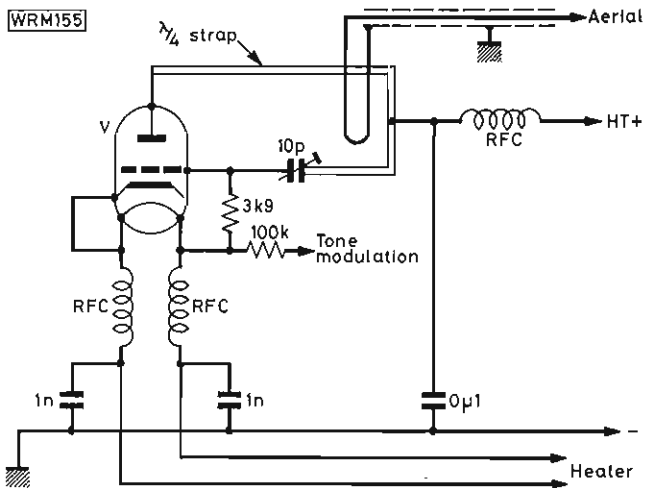
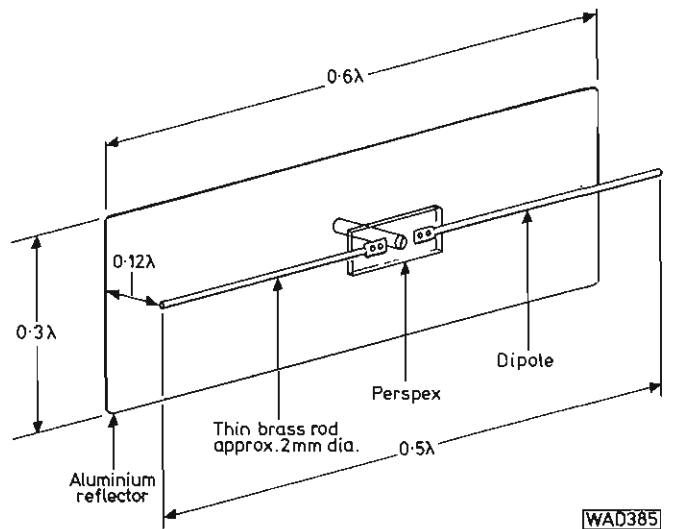

Fig. 2: Suggested circuit for a simple v.h.f. oscillator for use as a transmitter. See text
Fig. 3: Aerial for the transmitter, consisting of a dipole with a plane reflector
A circuit of a typical quarter-wavelength line oscillator suitable for a transmitter is shown in Fig. 2. The valve (V) may be any u.h.f. triode with appropriate power rating (on average the r.f. power output will be about 30 to 40 per cent of the d.c. power input). Tone modulation can be obtained by feeding an audio signal of a few volts to the grid via the 100k Ω resistor as shown, although this is only necessary if the model aerial system is to be used for demonstration so that signal variation can be made audible. The transmitting aerial may be a dipole but it is better with a plane reflector as shown in Fig. 3, which will increase the radiated power and confine it to one direction.